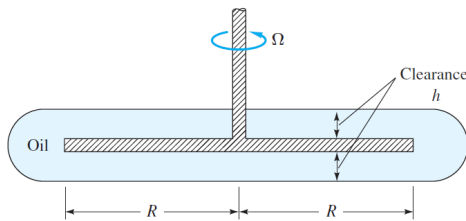

Fig. 1.8
- 1.8 A disk of radius R rotates at an angular velocity V inside a disk-shaped container filled with oil of viscosity μ , as shown in Fig. 1.8. Assuming a linear velocity profile and neglecting shear stress on the outer disk edges, derive a formula for the viscous torque on the disk.